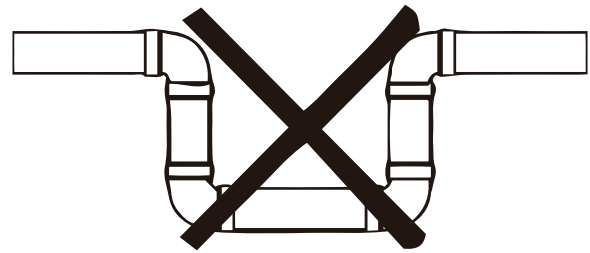

FIG. 6
- **DO NOT** connect the water pipe with a "trap" as shown in FIG. 6.